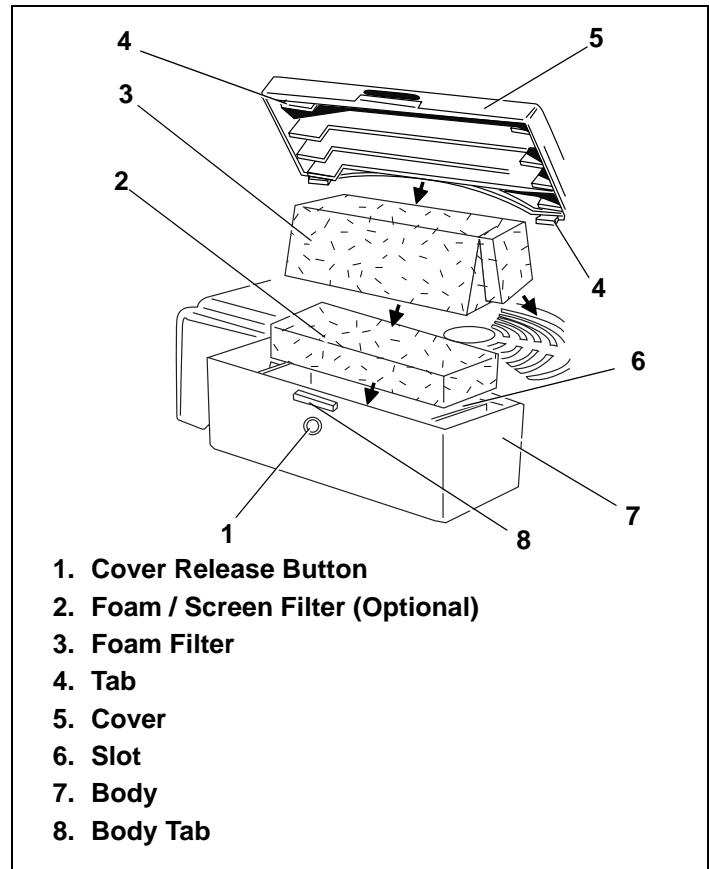

Figure 48. Air Cleaner Type "A" Assembly
Your engine has an air cleaner which helps prevent premature engine wear and failure. NEVER run engine without complete air cleaner installed on engine. Your air cleaner periodically needs to be cleaned or replaced. Your engine will be equipped with one of the following air cleaners; Type A, B, C, D or E. Follow instructions for the air cleaner type that resembles your model. See Figures 48 thru 52 starting on page 19. Afterward, continue reading instructions below.
1. Press cover release button and lift cover upward. See Figure 48.